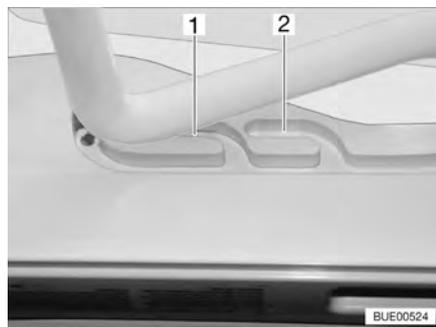
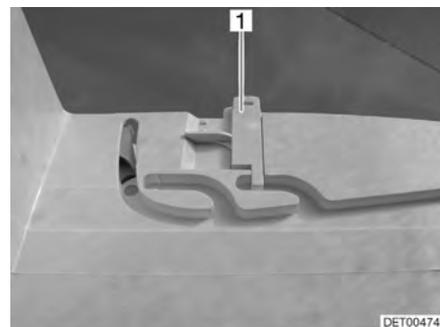

Fig. 61 Heki skylight in ventilation position
Fig. 62 Ventilation position locking mechanism
The Heki skylight can be put in two ventilation positions: Bad weather position (Fig. 61,1) and central position (Fig. 61,2). Depending on the model, the skylight can be locked in the central position with the latch (Fig. 62,1).
- Push the bar slightly upwards and into the selected guide (Fig. 61,1 or 2) and lock if necessary.